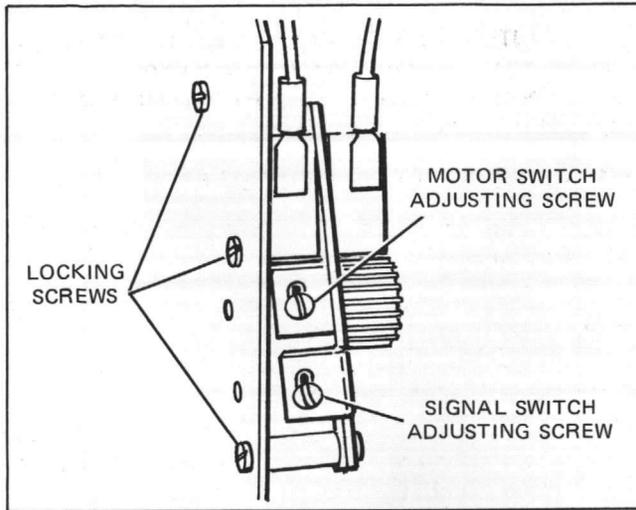

Figure 5-3. AR Switch Adjustment
b. **SIGNAL AND MOTOR SWITCHES.** (See Figure 5-3.)